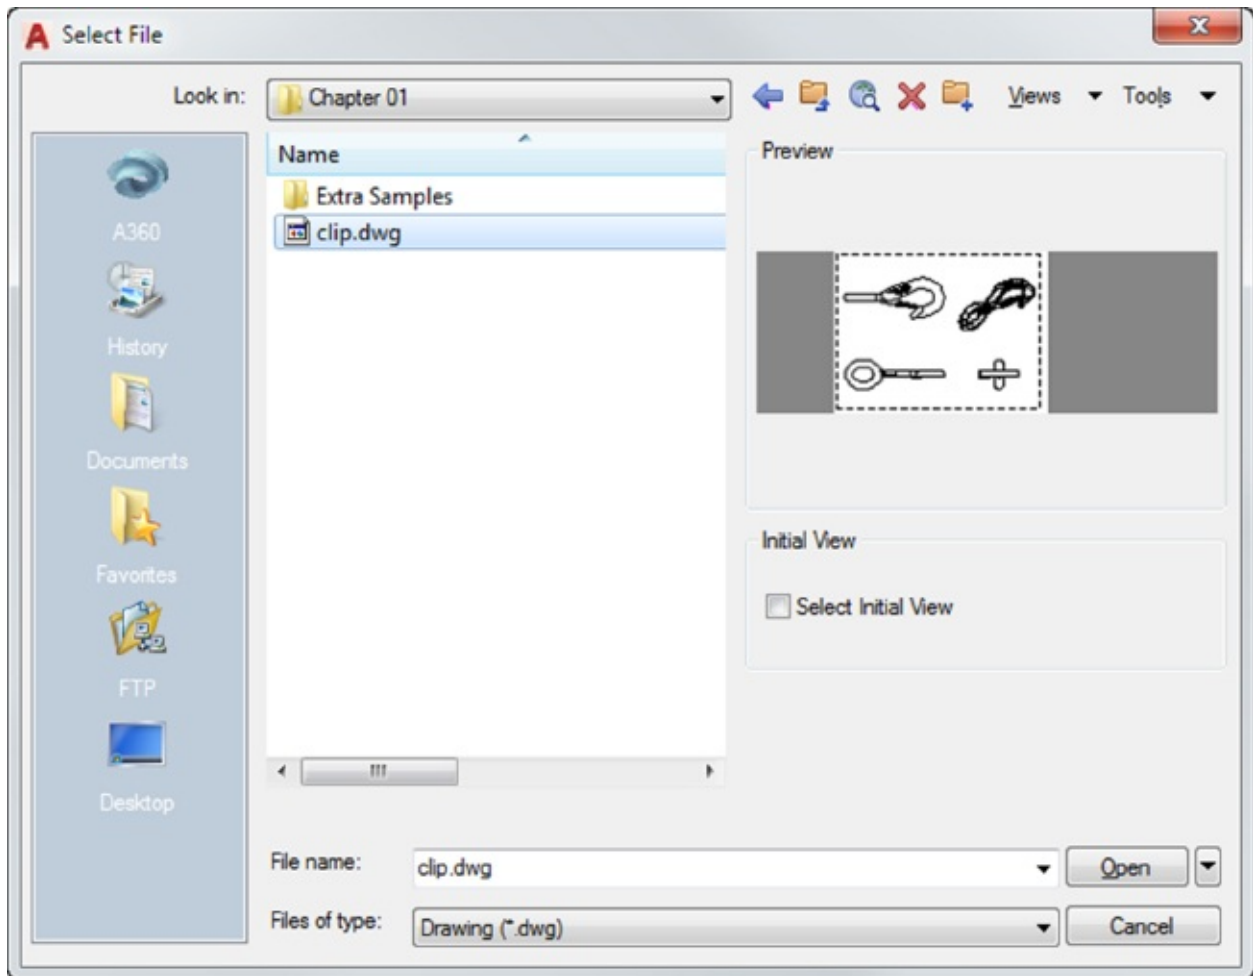

FIGURE 1.14 The Select File dialog box
2. In the Start tab, click the Open Files option just below the Start Drawing icon in the left column. The Select File dialog box opens. This is a typical Windows file dialog box with an added twist: In the large Preview box on the right, you can preview a drawing before you open it, thereby saving time while searching for files. To the left is a panel known as the Places list, in which you can find frequently used locations on your computer or the Internet (see Figure 1.14).